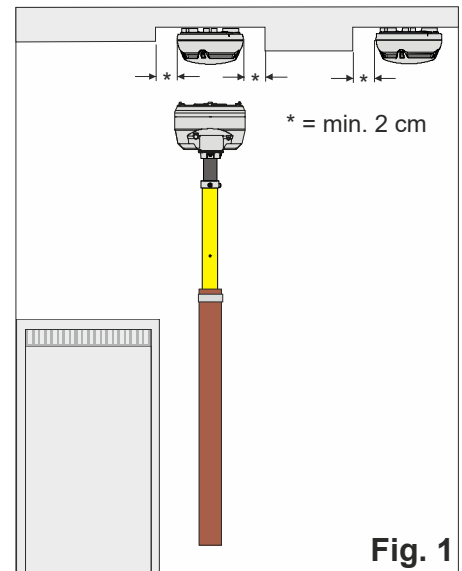

Fig. 1
1. Determine the installation location for the detector base. During this process, factor in sufficient horizontal and vertical clearances (see Fig. 1).